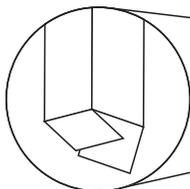
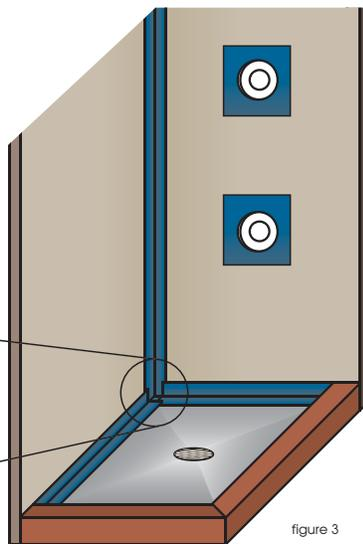

figure 2
figure 3
- 3.2.** Apply the latex with a brush on the junctions of the wall, floor curb (about 3 inches on each side of the joint), and around the shower head, niches, alcoves or any other visible pipe elements. Unroll the membrane provided on the 6-inch-wide role, and place it on the latex by cutting it at appropriate lengths. (Create corner gussets, see figure 2.) Cut the membrane and place it around the pipes and inside the niches and alcoves. Then apply a second coat of latex on the membrane (figure 3).